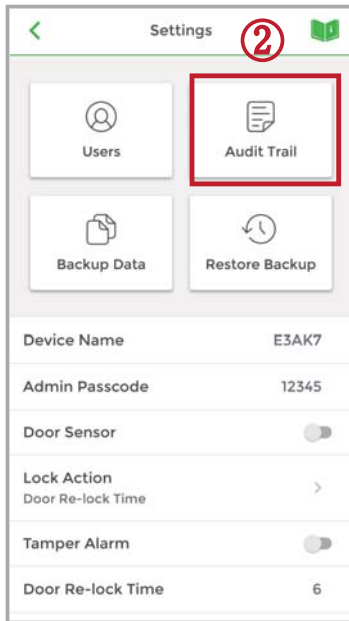
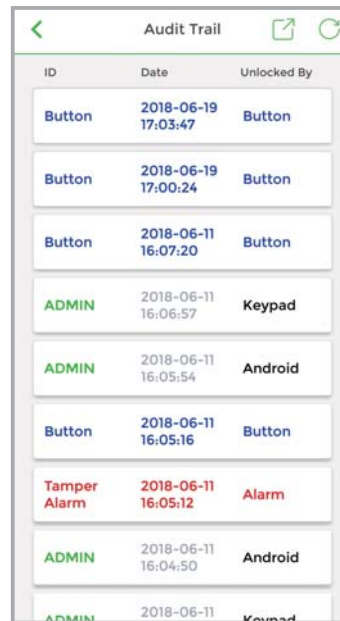

Figure 4
Figure 5
- (D) Scheduled : To assign repeatedly access on specific days and hours for a certain period of time. This setting is useful for house cleaners or constructors who need temporary access on regular basis. (See Figure 4 and 5 next page)
② **Audit Trail** : (See Figure 4 and Figure 5 next page)